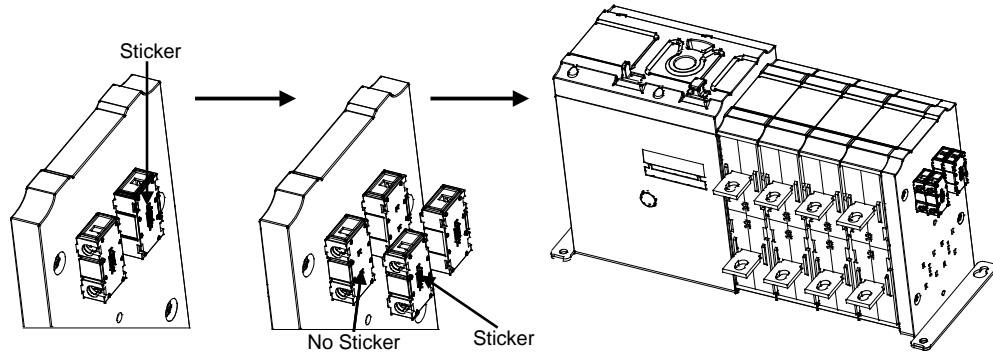

Figure 2-8 Auxiliary Contact Installation on Top of Another Contact
2. When mounting an additional auxiliary contact on top of another contact, remove the sticker located in the center of the contact that is being mounted, then like before, with the screw holes facing outward, snap the 4 claws into the corresponding 4 holes on the previously installed auxiliary contact and then force it into position, as shown in Figure 2-8. If installing an additional auxiliary contact on top of another, need to remove sticker on the base auxiliary contact, otherwise do not remove sticker to protect auxiliary contact from dust debris.